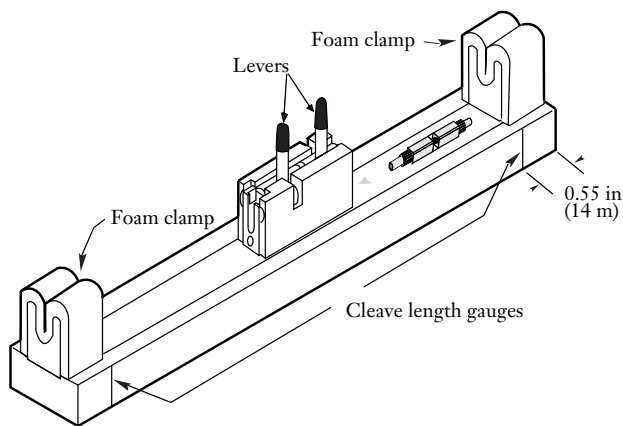

Figure 3
5.1 Position the assembly tool with the label on your left. Place both levers of the assembly tool in their vertical position (Figure 3).